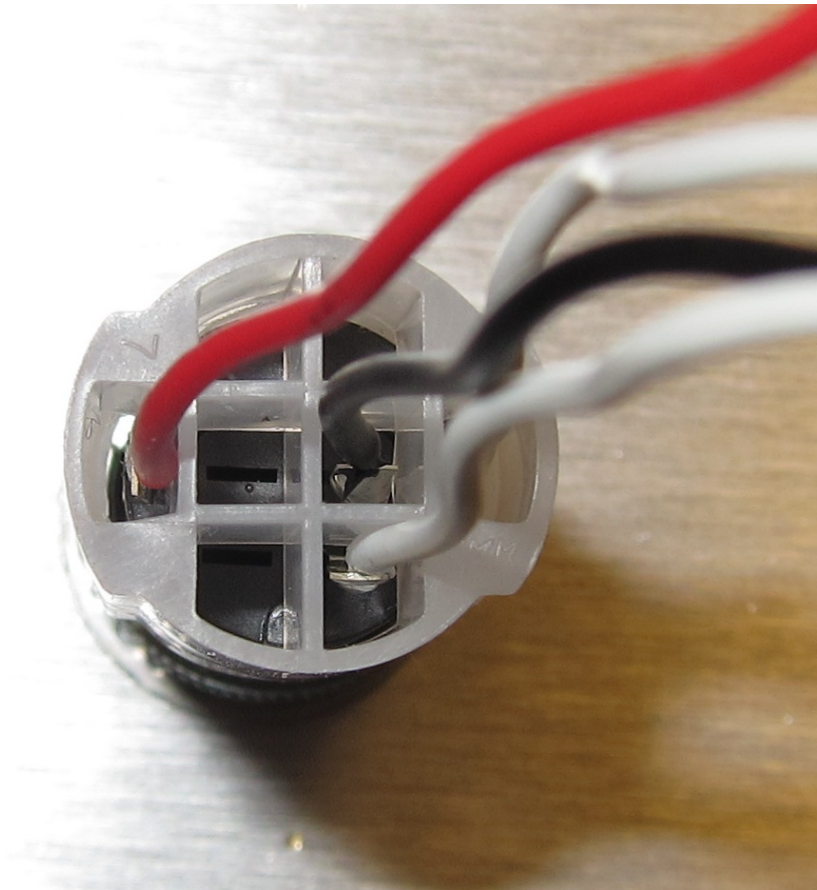

Figure 10: The red/white and black/white wires soldered to the switch.
- (h) Slide plastic guard over the terminals. Completed switch assembly is illustrated in Figure 10.